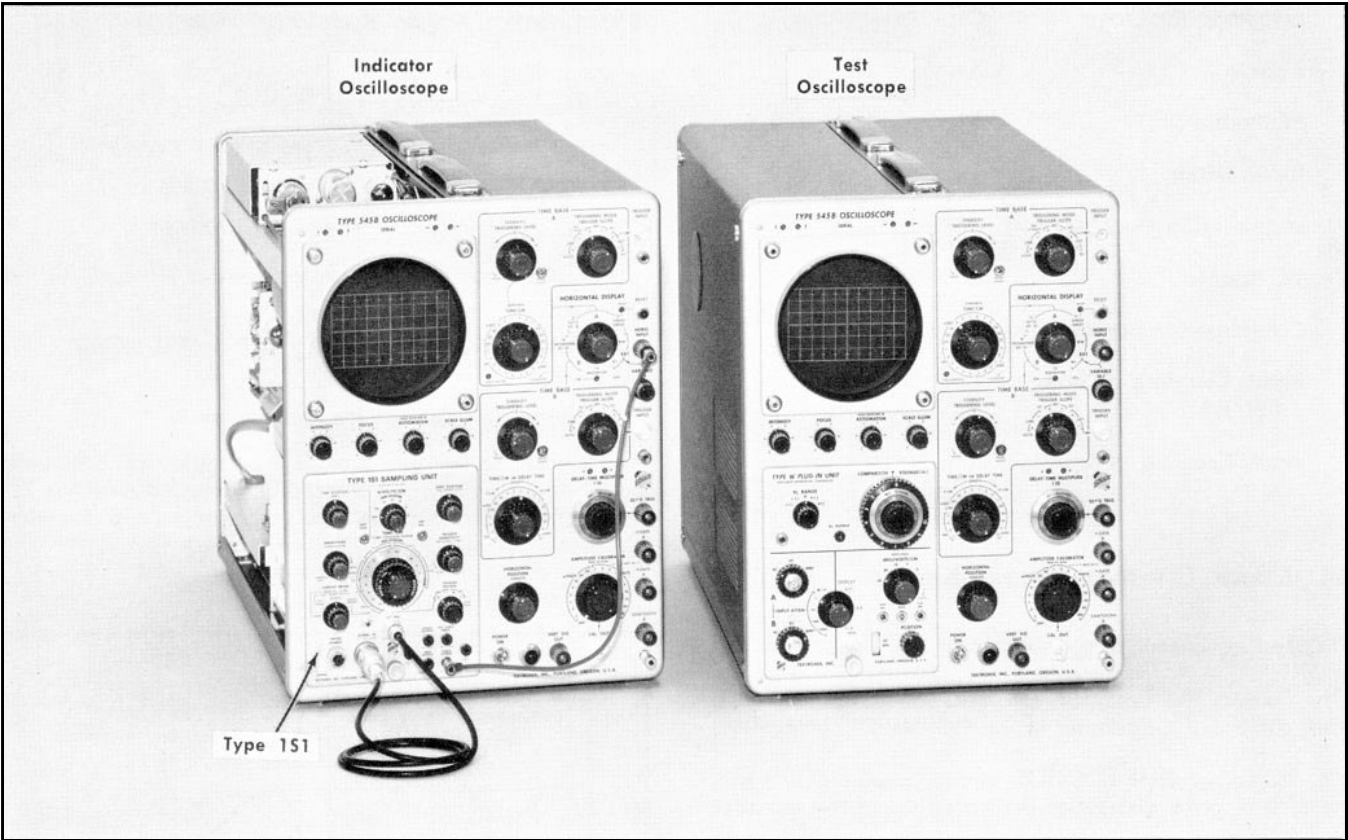

Fig. 5-64. Initial test equipment setup for steps 44 and 45.
- Test equipment setup is shown in Fig. 5-64.